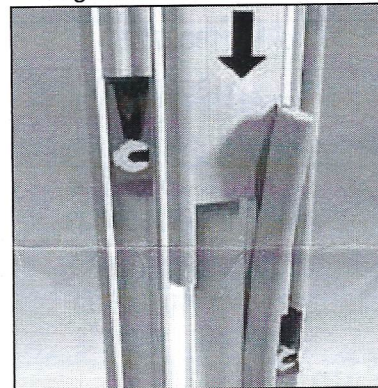

Figure 9
- Use a pliers to gently lift up 3"-4" (76-102) of the jamb weather strip from the jamb carrier. See figure 9. Lower the wood filler about 3" (76).